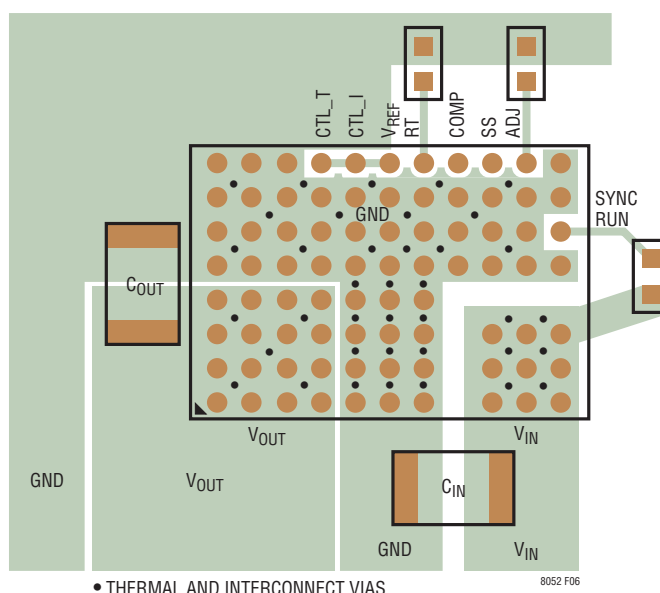

Figure 6. Layout Showing Suggested External Components, GND Plane and Thermal Vias
Most of the headaches associated with PCB layout have been alleviated or even eliminated by the high level of integration of the LTM8052/LTM8052A. The LTM8052/LTM8052A is nevertheless a switching power supply, and care must be taken to minimize EMI and ensure proper operation. Even with the high level of integration, you may fail to achieve specified operation with a haphazard or poor layout. See Figure 6 for a suggested layout. Ensure that the grounding and heat sinking are acceptable.
6. Use vias to connect the GND copper area to the board's internal ground planes. Liberally distribute these GND vias to provide both a good ground connection and thermal path to the internal planes of the printed circuit board. Pay attention to the location and density of the thermal vias in Figure 6. The LTM8052/LTM8052A can benefit from the heat sinking afforded by vias that connect to internal GND planes at these locations, due to their proximity to internal power handling components. The optimum number of thermal vias depends upon the printed circuit board design. For example, a board might use very small via holes. It should employ more thermal vias than a board that uses larger holes.